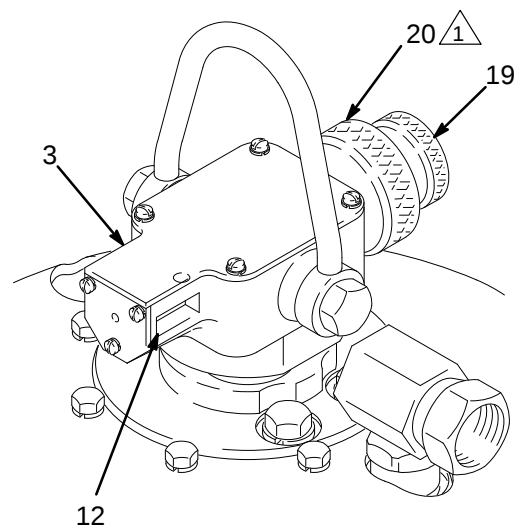

Fig 3 01815
4. Screw the electric control pressure switch or pneumatic count line tube from the control center (H) to the 1/4 npt(f) fitting on the side of the motor shield.
5. **To change the stroke length**, first be sure the motor air regulator (D) is closed. Then open the master air valve (A). Slowly open the air regulator until the motor starts. Then loosen the locking knob (19) of the stroke adjustor (3), and turn the adjusting knob (20) counterclockwise to shorten the stroke. Now tighten the locking knob (19). See Fig 3.